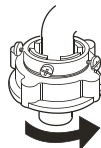

Figure 5
4. Extend the drain hose from the other side. Fix the drain hose onto the base frame with the drain hose frame. (As indicated in Figure 5)
4. Take off the nameplate. Twist the fastening nut as per the indication of the figure. See to Figure 5.